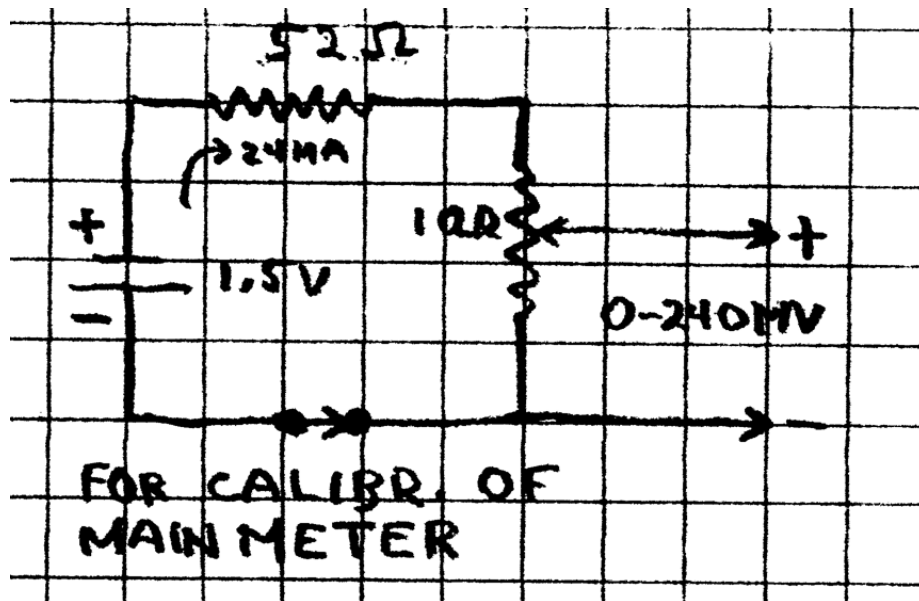
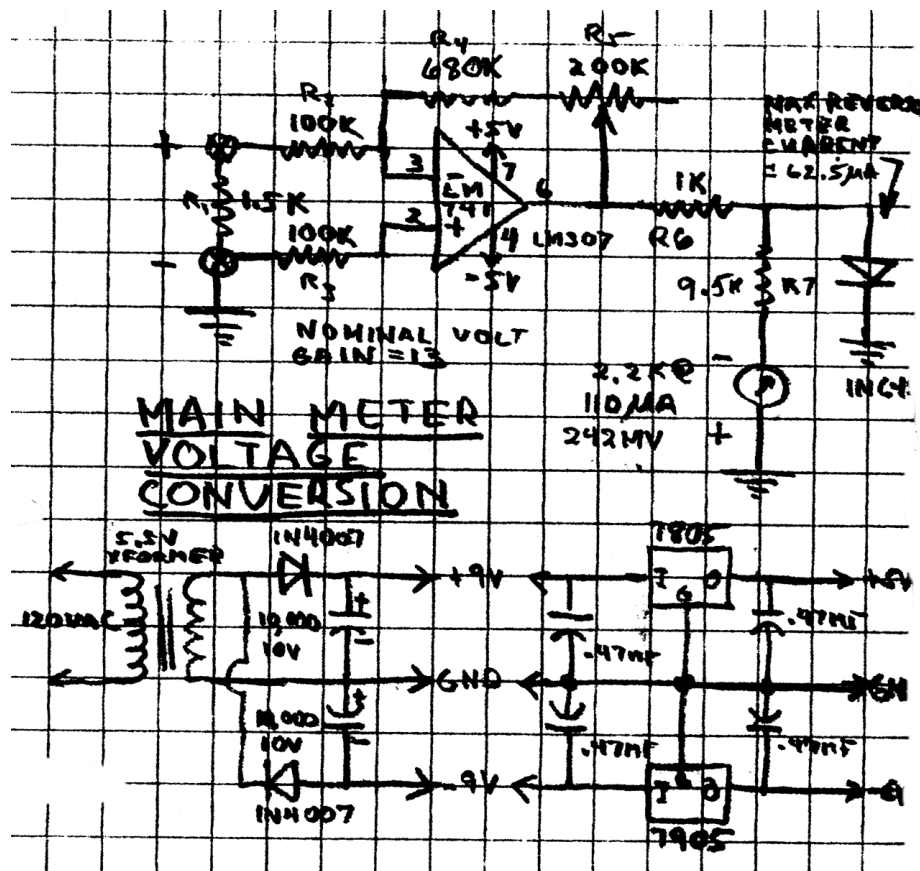

Figure 17: Low Voltage Source Circuit
Figure 19: Main Meter Voltage Conversion
3. Most of the simulations were done assuming the meter was as specified by Hickok and; therefore, that 172.5 mV corresponds to full scale (F.S.) deflection of the MAIN METER. Yours is probably (slightly) different from this; however. If you are going to monitor the MAIN METER voltage externally from the back of the set using a separate voltmeter, for example, you need to know what actual voltage causes F.S. in your meter. One way to find out this information is to measure the voltage at the MAIN METER terminals with an external voltmeter in the V.R. test mode (FUNCTION switch, range “H”) and turn the voltage all the way up to 200 V (or whatever setting it takes to give F.S. deflection of the MAIN METER). Make sure the tester meter is in the same orientation as usual when using the tester and that it has been mechanically zeroed. Another method is to use the simple low voltage source circuit shown in Figure 17 *Low Voltage Source Circuit*. Knowing the actual F.S. voltage, you can calculate the important values: $1\text{ M} = 25\%$ F.S.voltage, $\text{DIODES GOOD/BAD} = 27\%$ F.S. voltage etc.
If you do have a meter which meets the above criterion, here's how to determine the resistor values: Put a 2K potentiometer in series with the replacement meter (adjust it initially to give the maximum resistance so you won't "peg" the meter). Put the combination across the test voltage source of Figure 17 *Low Voltage Source Circuit*, and adjust the potentiometer of the voltage source to get 172.5 mV across the combination. Now adjust the 2K potentiometer to give full scale deflection of the replacement meter. (Re-adjust the voltage source to keep 172.5 mV output as necessary.) Use an ohmmeter to measure the resistance setting of the 2K potentiometer and put a fixed resistor of that value in series with the replacement meter. Put a much larger value potentiometer across the combination of fixed resistor and replacement meter, say 50 K. (Start this potentiometer out at 0 ohms, again to avoid "pegging" the meter.) Put a 1.5K, 1% resistor in series with this new combination and all of this across the voltage source. Adjust the voltage source to give 172.5 mV across the new combination (and re-adjust as necessary). Adjust the parallel potentiometer across the replacement meter circuit to give one half of F.S. deflection of the
voltage amplifier (or you could use the non-inverting configuration instead if you wanted). Note that the power supply for the op amp has to be separate and electrically isolated by a small transformer (it can be quite small as this circuit draws practically no current). Figure 19 *Main Meter Voltage Conversion* is the schematic for the circuit I used in my set. (*This design is very much a prototype and if I were to do it again, I would do it very differently.*) If you decide to do something similar, I would recommend using a more modern op amp and higher supply voltages. (I had to change C4 from 100 MF to 330 MF to compensate for my poor design choices, but it worked and I was too lazy to go back and do it “right”. The diode is to keep the meter from being “pegged” too hard downscale when the tester is first switched off.) You simply adjust the value of the op amp feedback resistor to suit your particular meter movement. You can use the voltage source circuit of Figure 17 *Low Voltage Source Circuit* to give 172.5 mV input to the circuit and adjust the feedback resistor in the op amp circuit to give FS on the replacement meter.